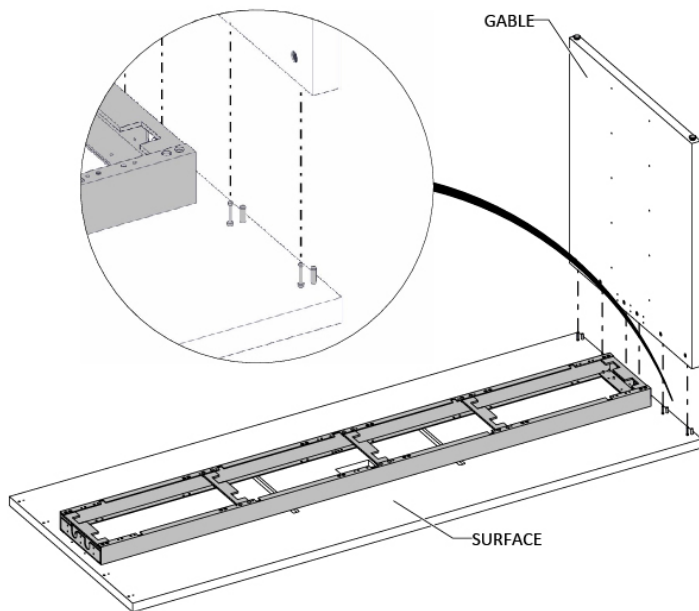

Figure 6
6. Connect the gable to surface and press the boards together by inserting the combi dowels and wooden dowels into the holes of the gables, (Figure 6).